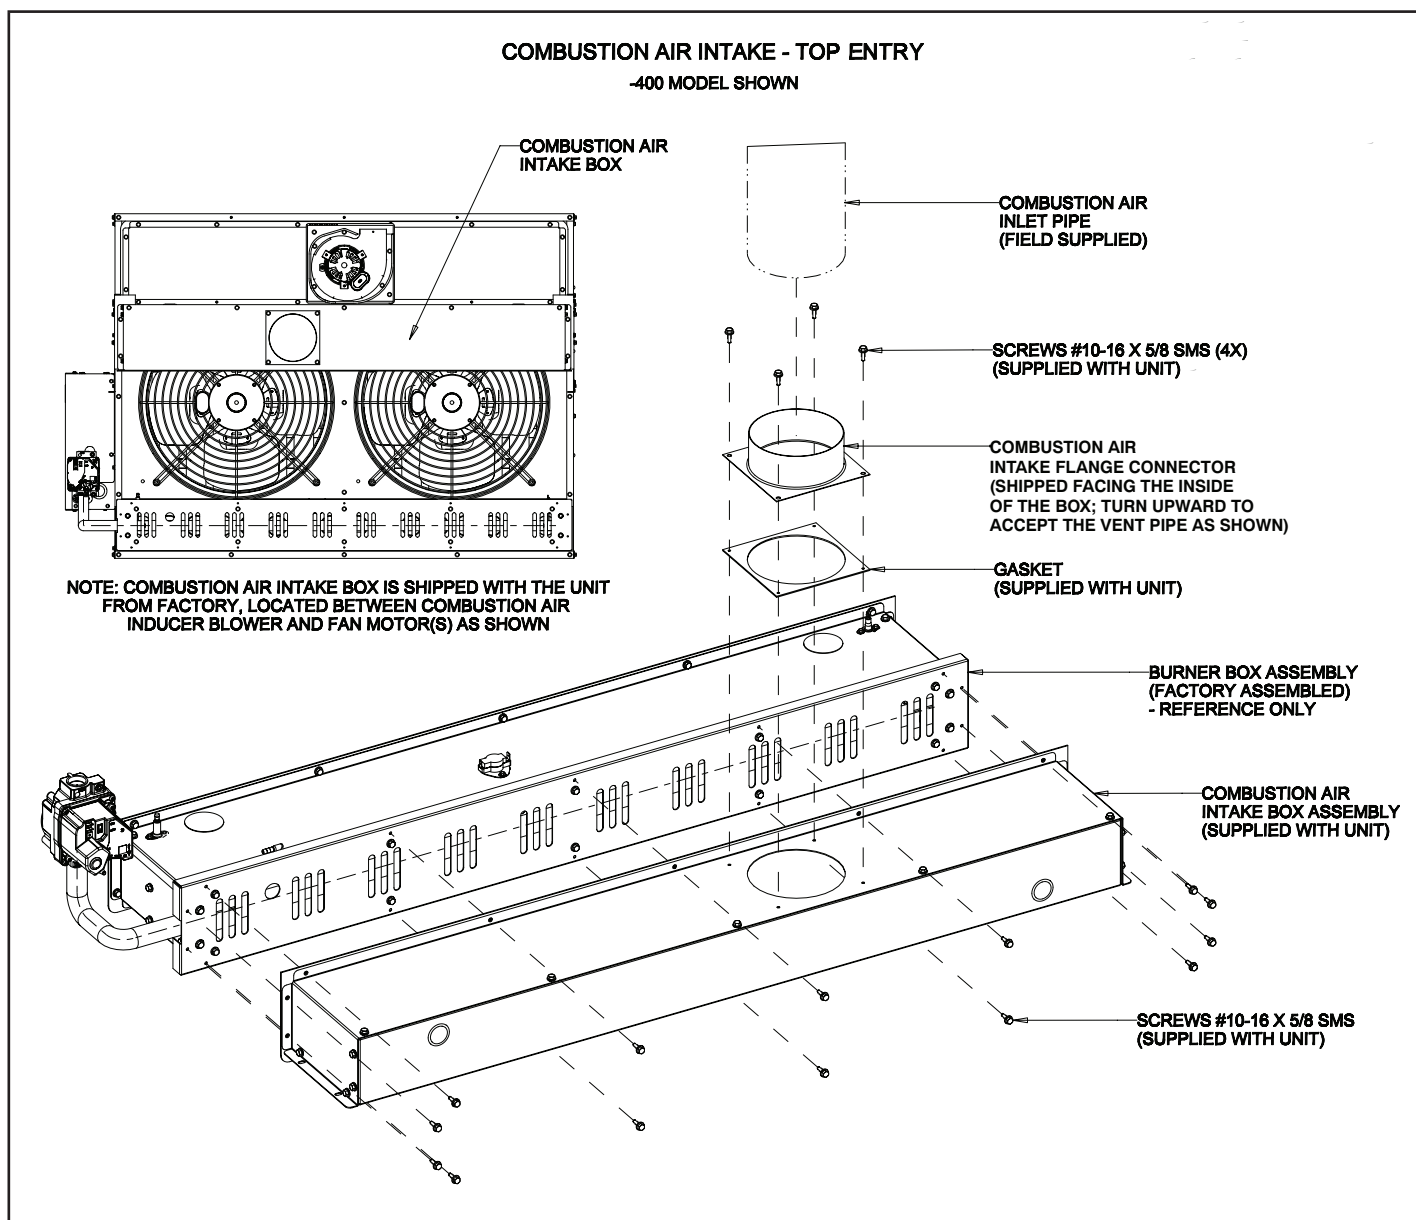
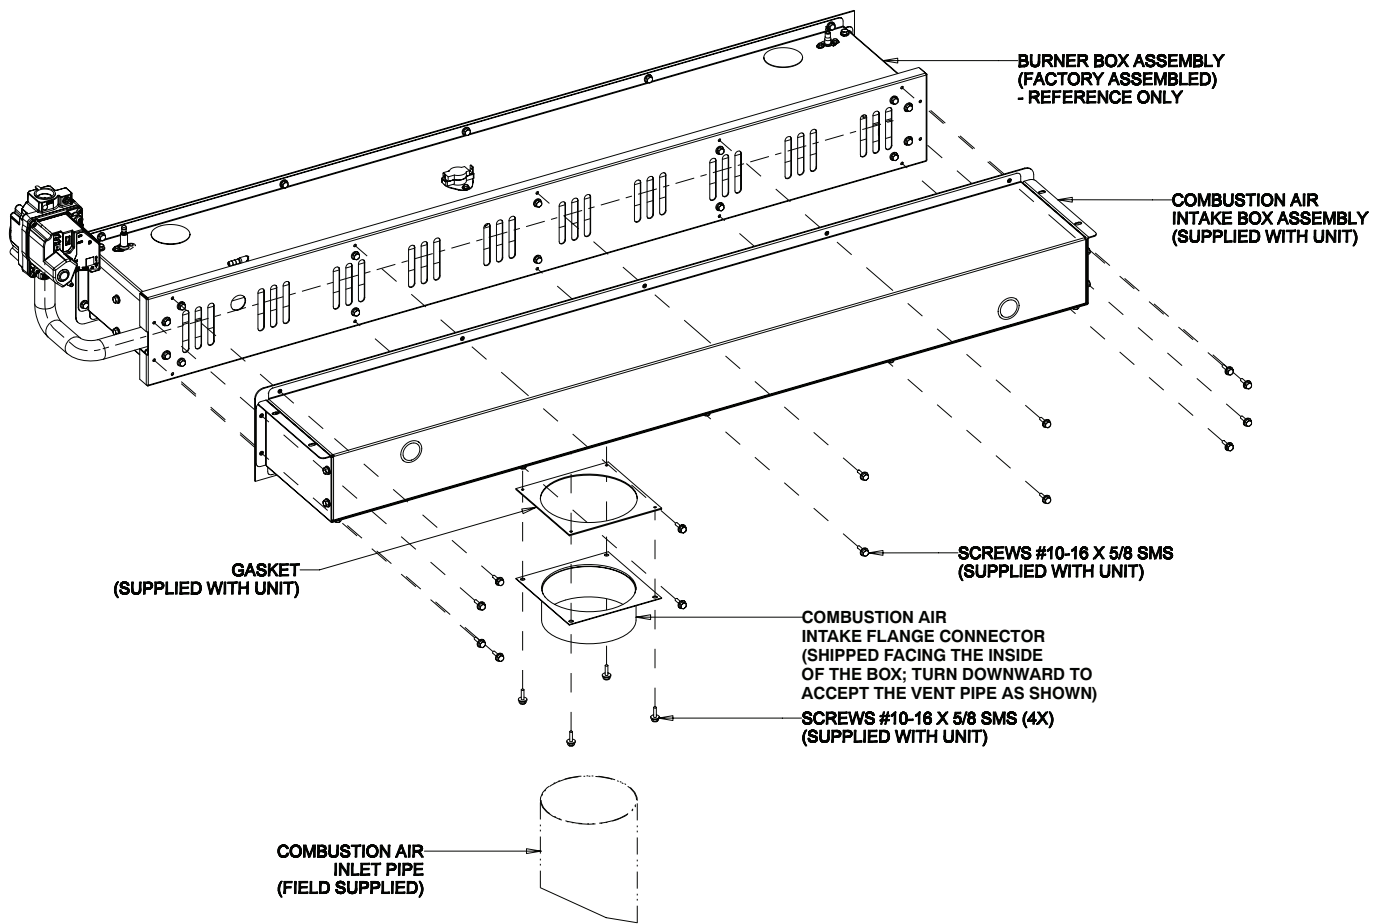

FIGURE 3
FIGURE 4
- 9 - Install the combustion air intake box. See figure 3 for top entry and figure 4 for bottom entry.
10 - The vent must extend at least 3 feet (1m) above the highest point where it passes through a roof of a building. The vent must also extend at least 2 feet (1m) higher than any part of a building within a horizontal distance of 10 feet (3m) unless otherwise specified by ANSI Z223.1 or CSA-B149 installation compliance codes. The vent must extend at least 5 feet (2m) above the highest connected equipment flue collar. Fit the combustion air inlet pipe over the flange connector on the combustion air inlet box. See figure 3 and 4.